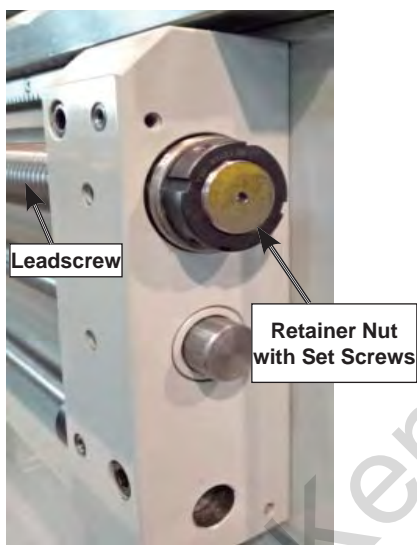

Figure 87. Leadscrew end play adjustment.
3. Loosen both retaining nut set screws shown in Figure 87.